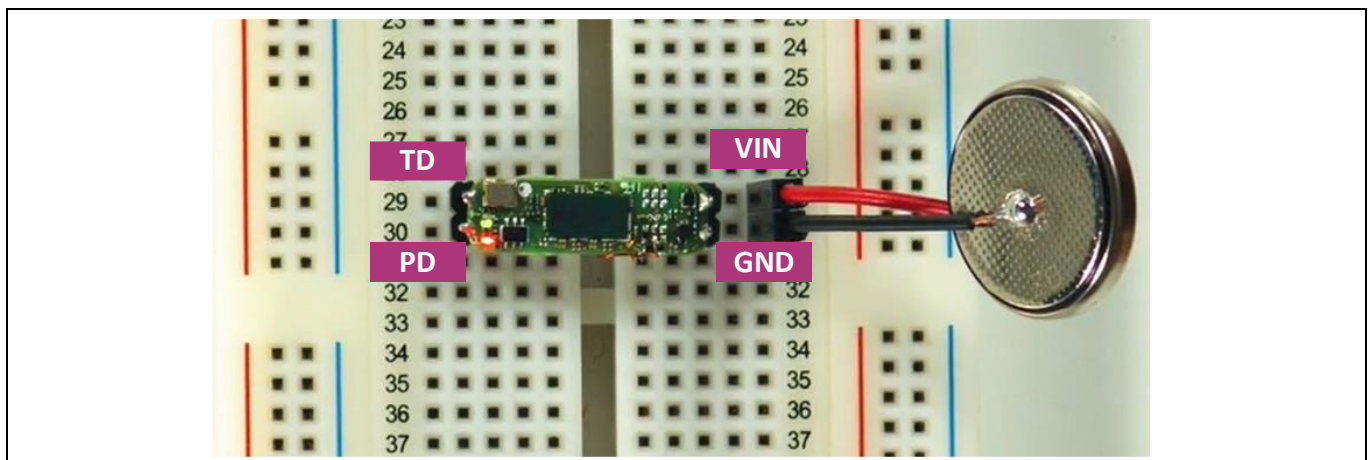

Figure 20 Radar shield working independently with a battery power supply
The BGT60LTR11AIP autonomous shield, can operate independently with a battery that supplies to the VIN, GND pins of the castellated holes, and will generate internal detector outputs on TD (TDet) and PD (PDet) castellated holes depending on the movement of the target. As shown in Figure 20, the output signals TDet and PDet are connected to LEDs, which glow according to target movement (TD) and direction of movement (PD).